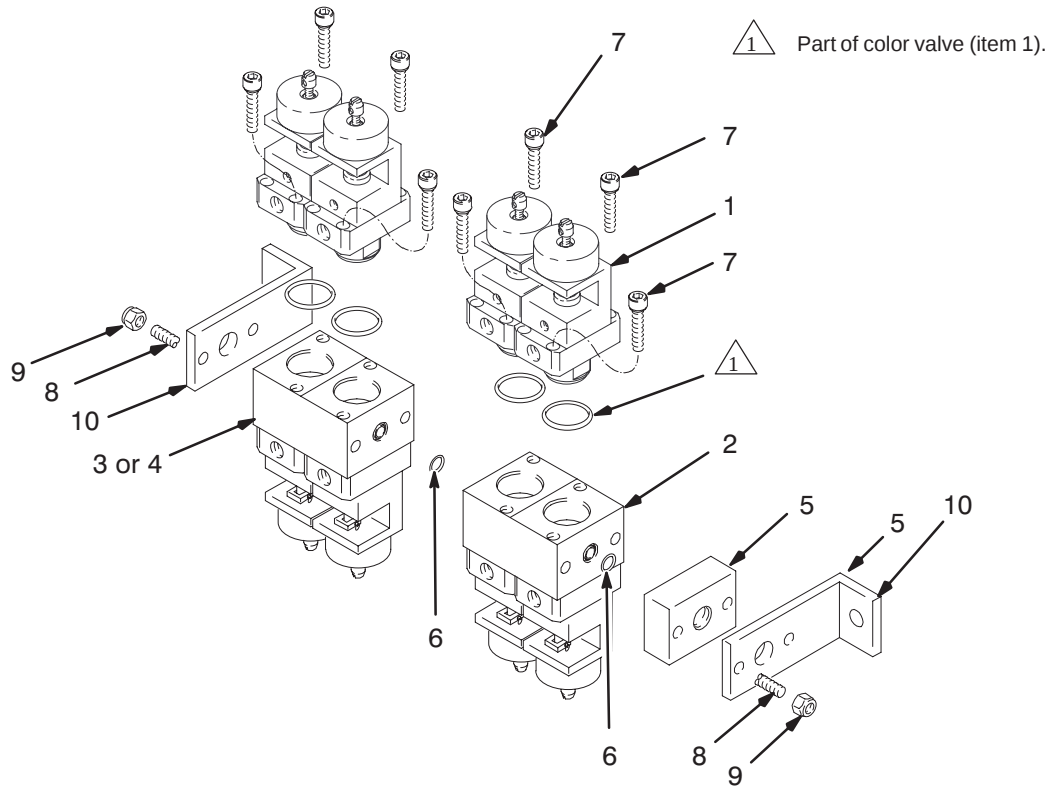

Fig. 2
1. Install a nut (9) on each of the rods (8). Slide the bracket (10) and outlet block (5) onto the rods. See Fig. 2.
2. Place an o-ring (6) on the front of the first center manifold (2), and slide it onto the rods up to the outlet block.
3. Place an o-ring (6) between each of the center manifolds (2). Slide the center manifolds onto the rods.
4. Place an o-ring (6) on the open end of the last center manifold. Slide the end manifold (3 or 4) onto the rods.
5. Slide a bracket (10) onto the rods and secure with the nuts (9).
6. Install the valves (1) on the manifolds with two screws (7).